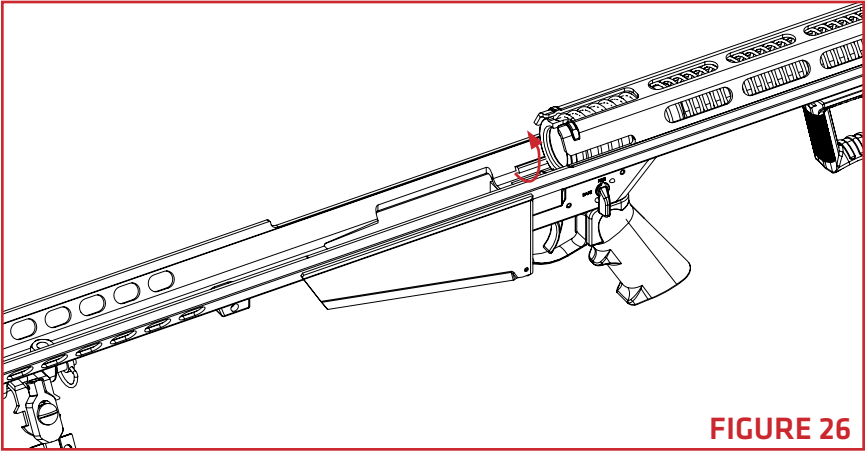

FIGURE 26
2. Push the buffer sleeve and mainspring into the lower receiver in one continuous, fluid motion. Once pushed past the buffer stop, rotate the buffer sleeve to align the notches vertically with the larger notch on top (FIGURE 26).